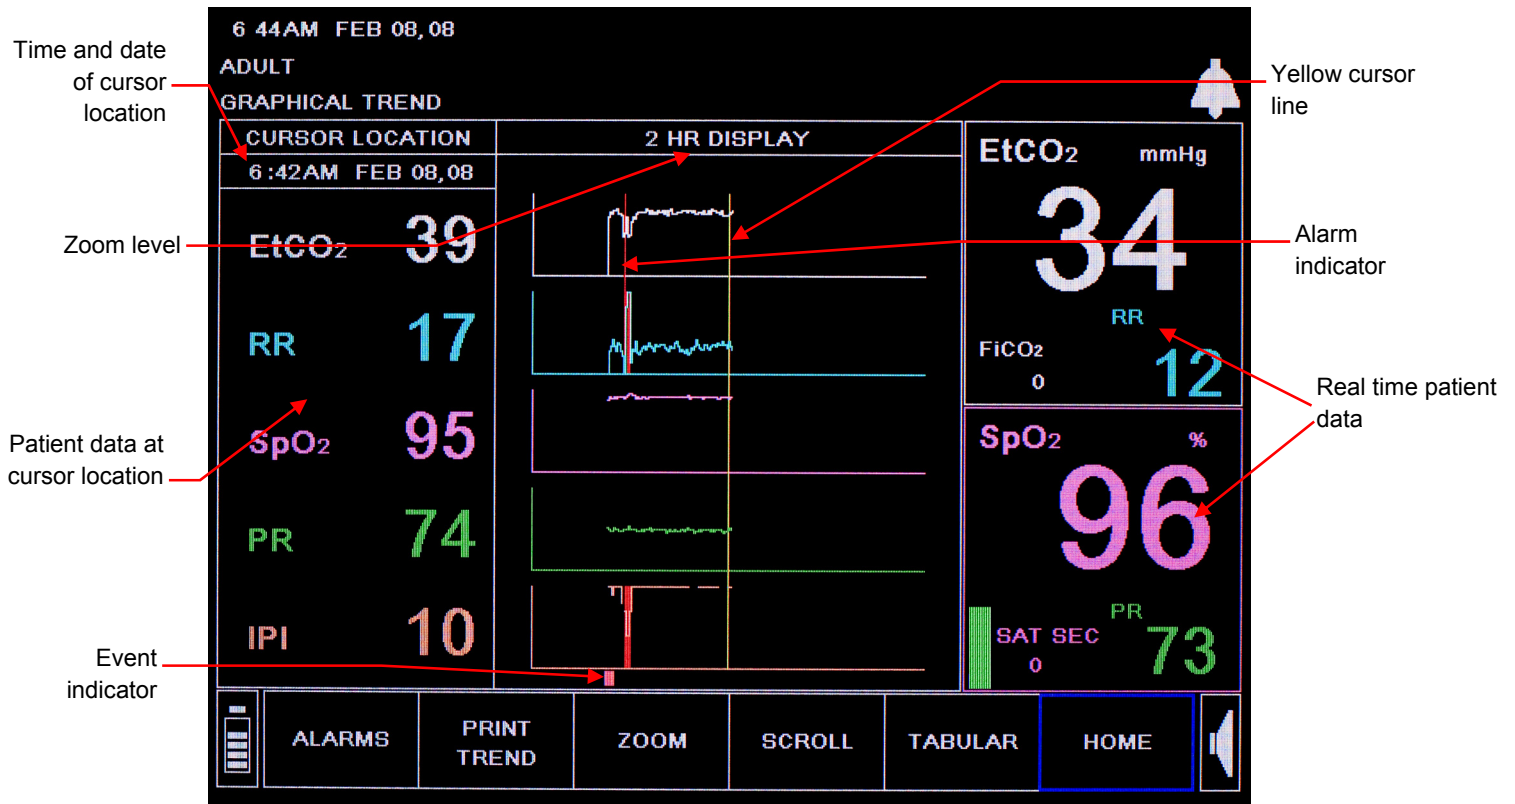

Figure 29 - Graphical Trend Display
- From the Home screen, use the control knob to select **TREND** from the soft buttons in the menu bar at the bottom of the screen. The Graphical Trend screen, seen in Figure 29 - Graphical Trend Display, below, is shown.
heading near the top left of the screen as shown in Figure 29 - Graphical Trend Display on page 76.
To find an event or alarm occurrence, scroll the graphic display to look for event and alarm markers as shown above in Figure 29 - Graphical Trend Display on page 76. Place the yellow cursor line on the red alarm marker, then exit the scroll mode by clicking the control knob. When you zoom to a different time display, the cursor will appear in the middle of the graphical screen at the appropriate time that it marked on the previous screen.